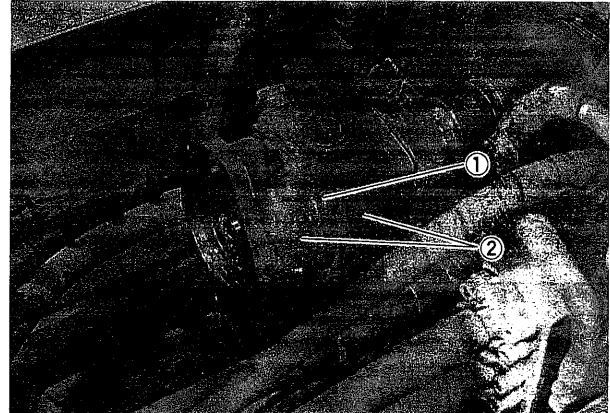

Fig. 16
- 2) Remove bolts ① using a hex wrench, and demount charge pump assembly ②. (Fig. 16)